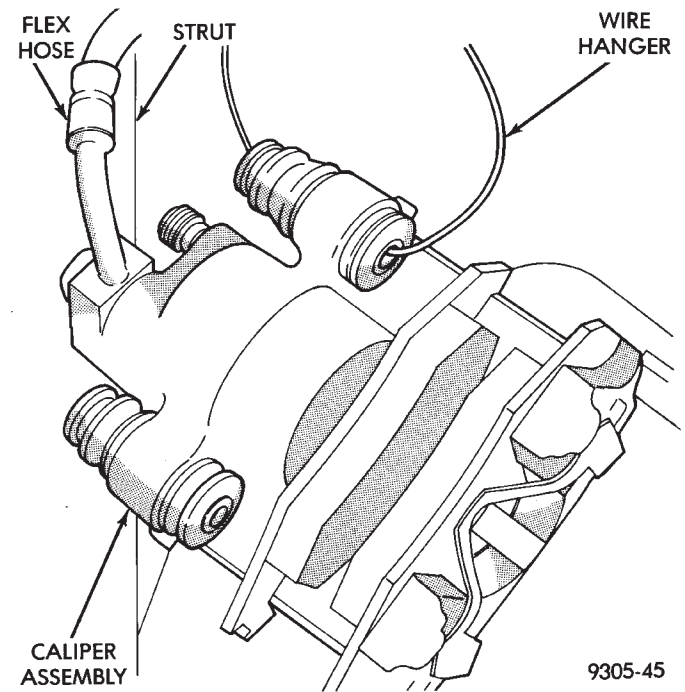

Fig. 95 Storing Caliper
(5) Support the caliper from the rear strut to prevent weight of caliper from damaging the flexible brake hose (Fig. 95).